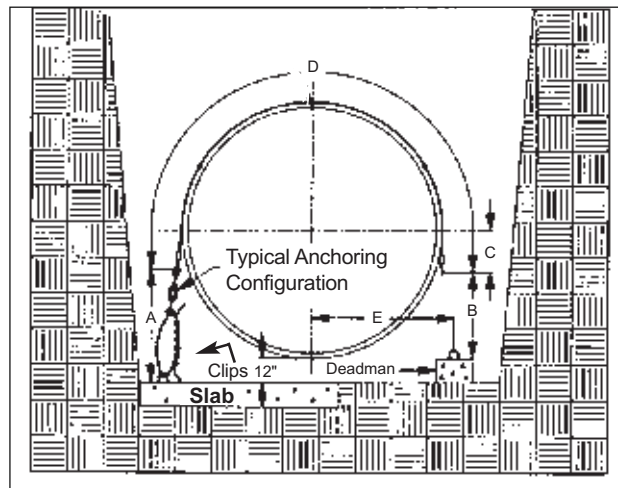

FIGURE 7-1
7.3.2. Placement of Xerxes prefabricated deadmen is the same as standard deadmen. (See FIGURE 7-1.)
7.4.5. Refer to FIGURE 7-1 and to TABLE 7-2 for anchor-point dimensions.
7.4.8. When using a concrete anchor slab, allow sufficient depth in the excavation for 12 inches of bedding material between the tank and the anchor slab. (See FIGURE 7-1.)
7.5.4. Data for hold-down straps are given in TABLE 7-2 and FIGURE 7-1.
7.6.4. Locate the anchor points as shown in TABLE 7-2 and FIGURE 7-1. Refer to dimension "E." Align (within a tolerance of ±1 inch) all anchor points with the marked arrowhead symbols ▶◀ on the tanks.